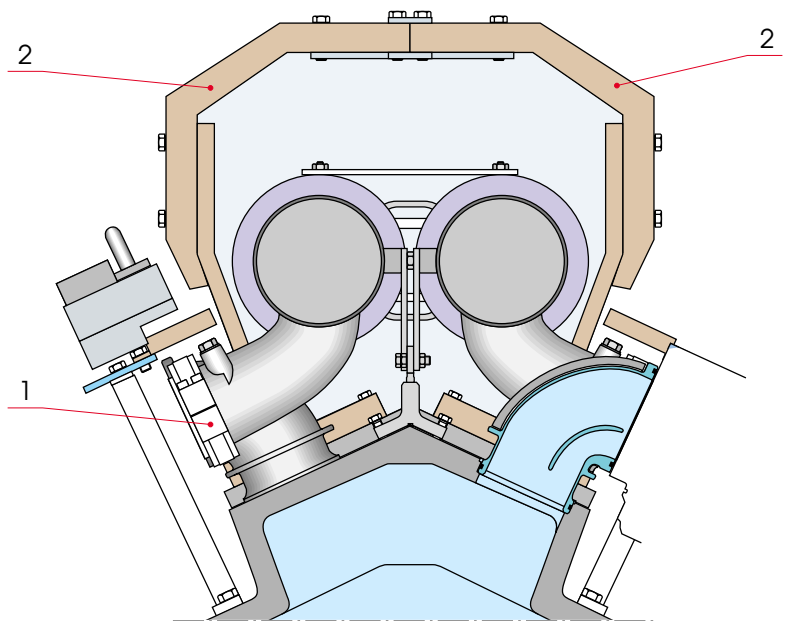

Fig 20-1
- 1** Remove necessary sheets on the insulation box. On V-engine the sheets (2) on the top, see Fig 20-1.